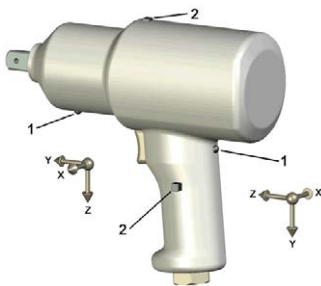
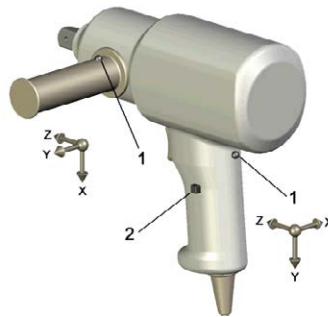

Figure 2 : without Support Handle
Figure 3: with Support Handle
Oil-pulse tools with a mass less than 2kg are normally operated using only one hand and therefore only the hand position on the trigger handle is measured. Tools of a mass of 2kg or more are normally operated using both hands and measurements are made in two positions. For tools without a side handle, the second hand position is on the front casing or – if that is not possible – on the motor housing (see figure 2). For tools with a side handle, vibrations are measured in three directions both on the trigger and the support handle (see figure 3). On the tools intended to be used with two hands, two positions are measured and the position with the higher value is declared.
Three different operators carry out three series of five consecutive measurements on each model, using three different units. Vibration measurement are made in two positions when the tool has mass of 2 kg or over (see figure 2) or when the tool has a support handle (see figure 3). For each hand position, we combine the result from the three operators into one value (\bar{a}_h), using the arithmetic mean of the three \bar{a}_{hv} values. \bar{a}_h values for each hand position are calculated as the arithmetic mean of the \bar{a}_h values for the different tools on that hand position. The declared value, a_{hd} , is the highest of the \bar{a}_h values reported for the two hand positions. The uncertainty K value is estimated by the equation (2).